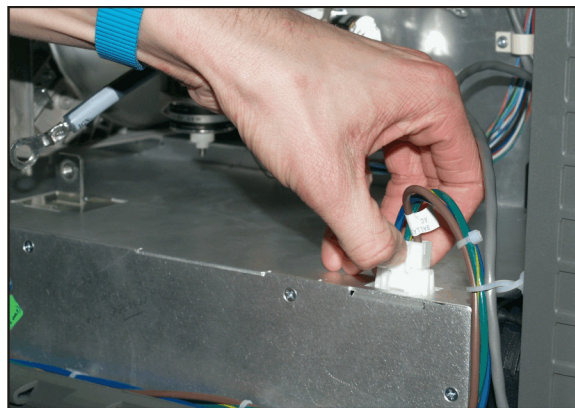

Figure 5-27 AC Power Harness
9. Disconnect the AC power harness by pushing in on the clip. (**Figure 5-27**).